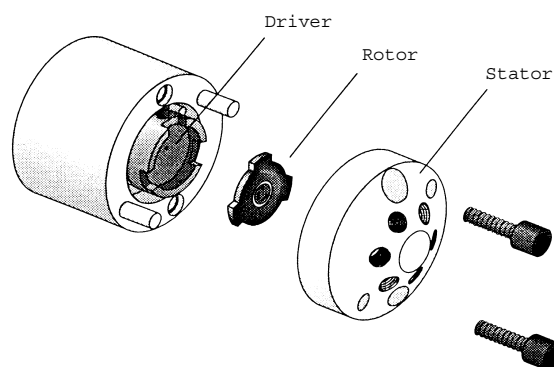

FIGURE D-1. Exploded View of the Valco Model C2 Valve
- a) Use a 9/16" hex driver to remove the socket head screws which secure the cap to the valve (FIGURE D-1)